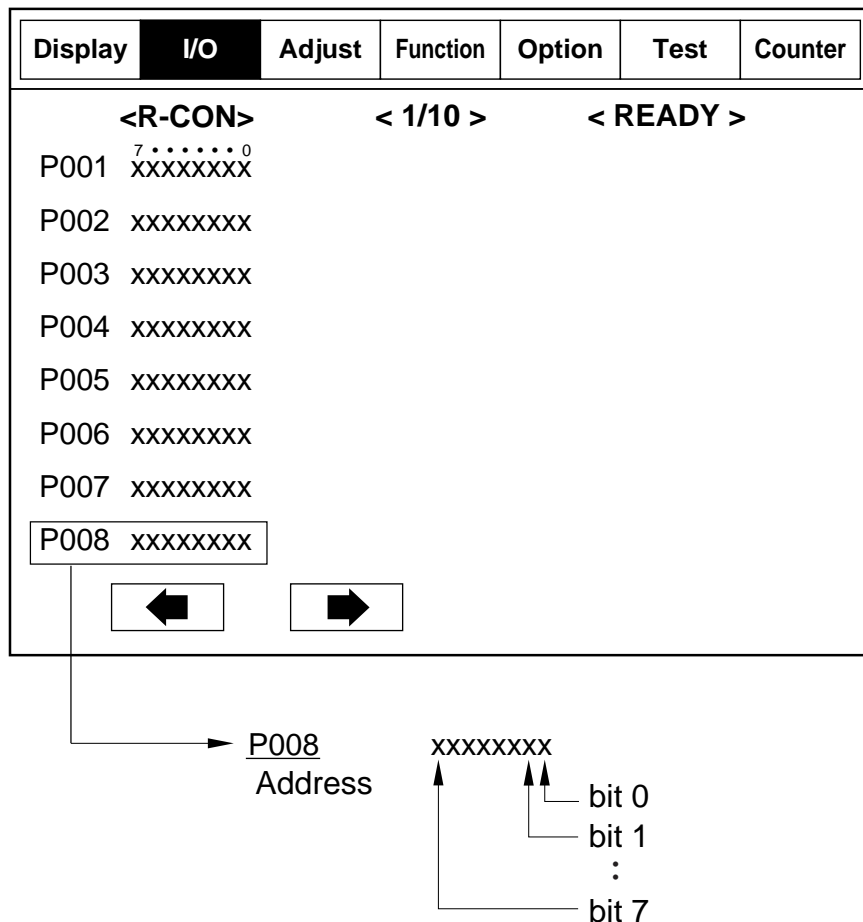

Figure 8-112
- 2) Press COPIER>I/O>DC-CON or R-CON in sequence so that the screen will be as shown in Figure 8-112.